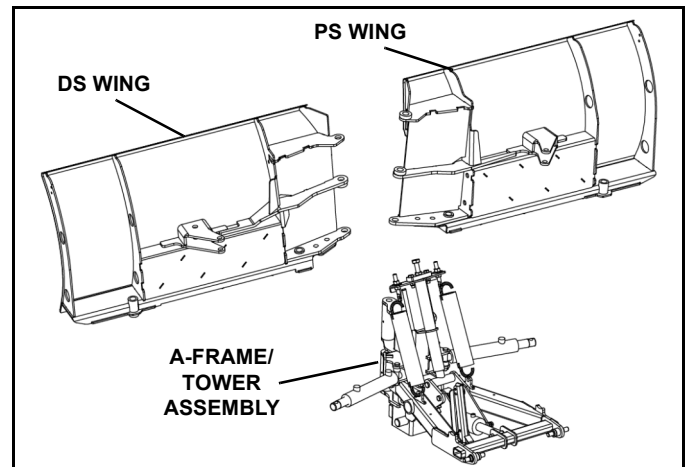

Figure 1-4
7. Position the drivers side (DS) and passenger side (PS) wings in front of the A-frame/tower assembly (See Figure 1-4).